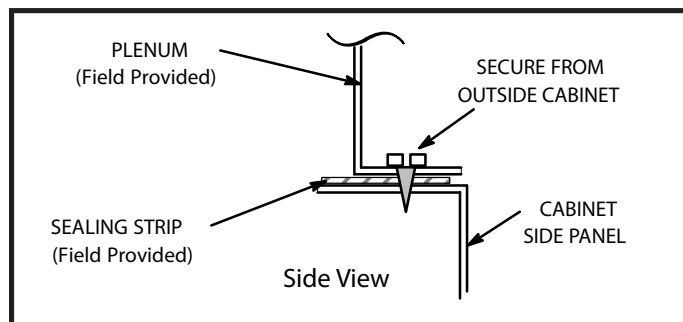

Figure 15
1. Bottom edge of plenum should be flanged with a hemmed edge (See Figure 15 or 16).